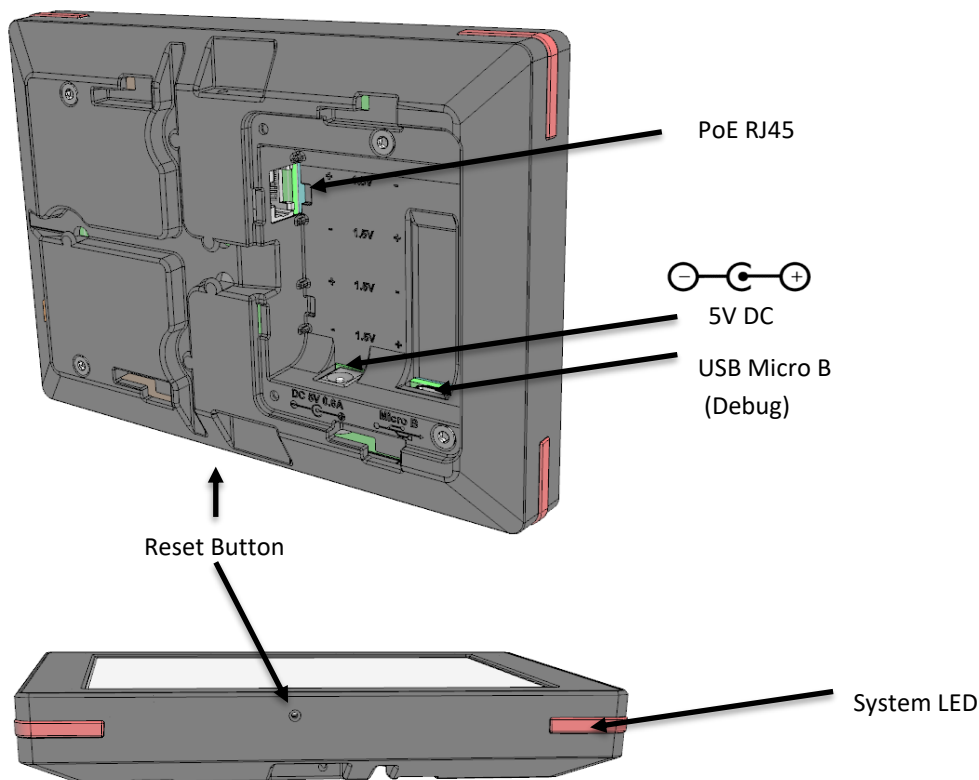

Figure 1-2: The Tablet (external) interface layout.
Figure 1-2 and Figure 1-3 illustrates the customer accessible interfaces of the Tablet. All models share the same layout; however some functions are not available in some models. The externally powered model shown in Figure 1-2 has RGB LEDs on the corners while the battery powered version shown in Figure 1-3 cannot use the LEDs.
- The reset switch of the Tablet is accessible through a pin hole in the bottom side of the Tablet as shown in Figure 1-2. See section 5.3 for LED behaviour during boot-up.